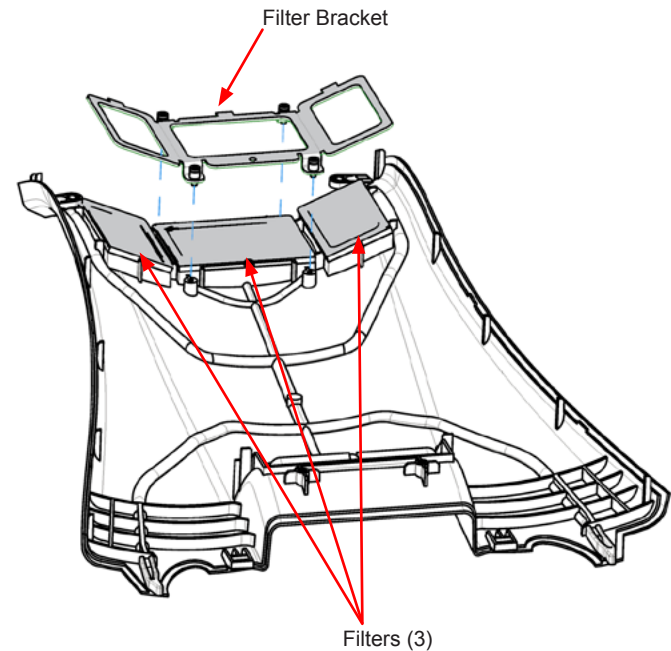

Figure 4-35 Lower Front Panel - Filter Bracket and Filter Removal
- 14.4 Loosen four 3 mm captive screws securing Filter Bracket to panel (see Figure 4-35). Remove Filter Bracket and three filters.